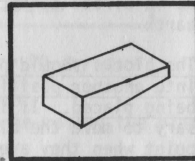

Fig. 17 - Side Taper.
- (1) Fix the side crack by moving the bolts sideways, as in paragraph 54 (usually it is only necessary to move the bottom bolt on the end with the crack toward the side where the crack occurs).
- (2) Fix the end crack by moving the lower adjusting bolt opposite the cracking end inward against the piston, as in paragraph 55.
59. Side Taper (See Fig. 17.) First move the guide plate on the thicker side outward; then move the other guide plate inward (see Fig. 1). The guide plates should be kept parallel to each other. Move both the tops and bottoms of both guide plates the same distance.